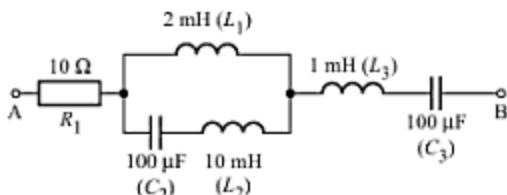

Fig. C-43
- C-21.** Find the impedance across the terminals A and B for the circuit shown in Fig. C-43. The operating frequency is 50 Hz. [Ans.  $(10 - j30.87) \Omega$ ]